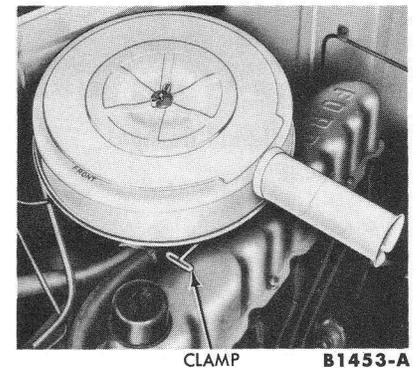

FIG. 7—Air Cleaner Installation
1. Position the air cleaner body on the carburetor with the word "FRONT" toward the front of the engine. Tighten the clamp (Fig. 7).